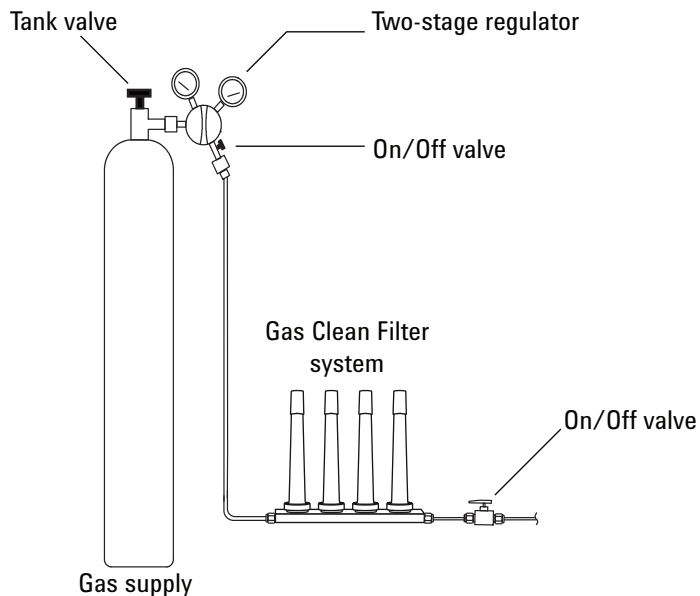

Figure 9. Plumb the gas supplies
- 1 Determine where you will install the traps in your supply tubing line. **Figure 9** shows the recommended trap order for the carrier gas and the recommended locations for On/Off valves. Also see the *Site Preparation Guide*.